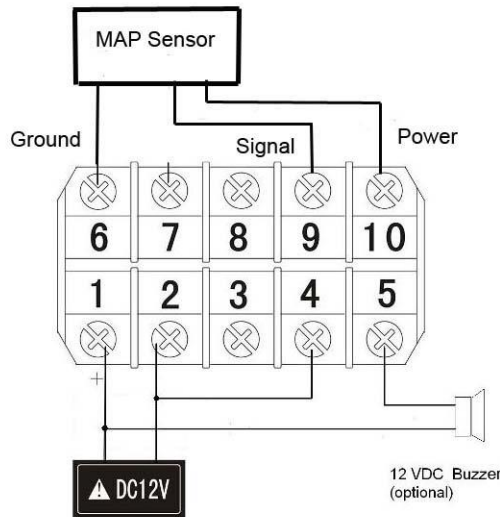

Fig 1. Wiring diagram.
1) Wiring the sensor as shown in Fig 1. Connecting power lead (red or brown) to terminal 10, signal lead (green or blue) to terminal 9, and ground lead (black) to terminal 6. The 12V DC buzzer is optional.